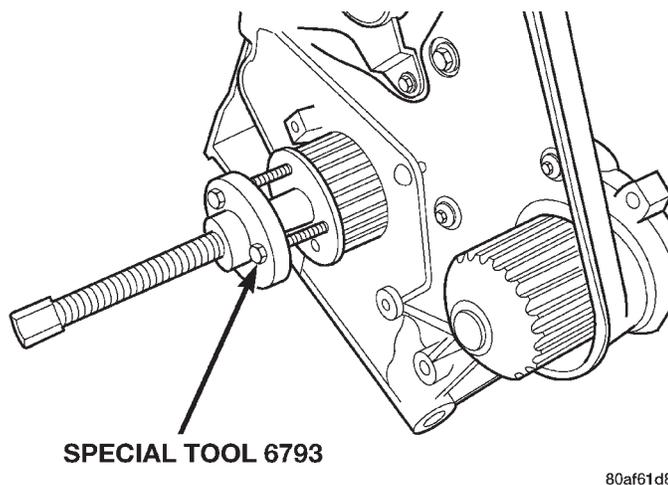

Fig. 54 Crankshaft Sprocket—Removal
- (3) Remove crankshaft sprocket using Special Tool 6793 and insert C-4685-C2 (Fig. 54).